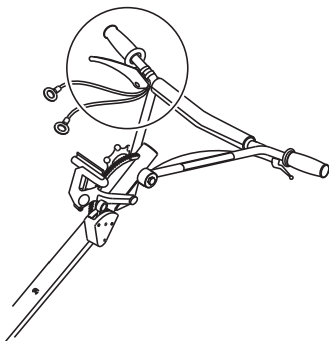

Figure 12. Repositioning the Lever
4. If so equipped, re-position the Operator Presence Lever on the handlebars, (Figure 12).